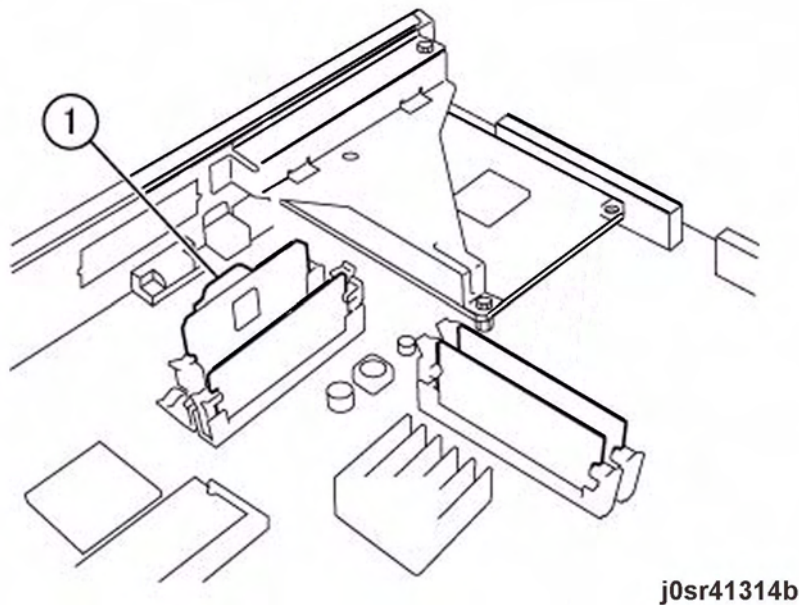

Figure 1 Removing the ESS NVM PWB
3. Remove the ESS NVM PWB (Figure 1).